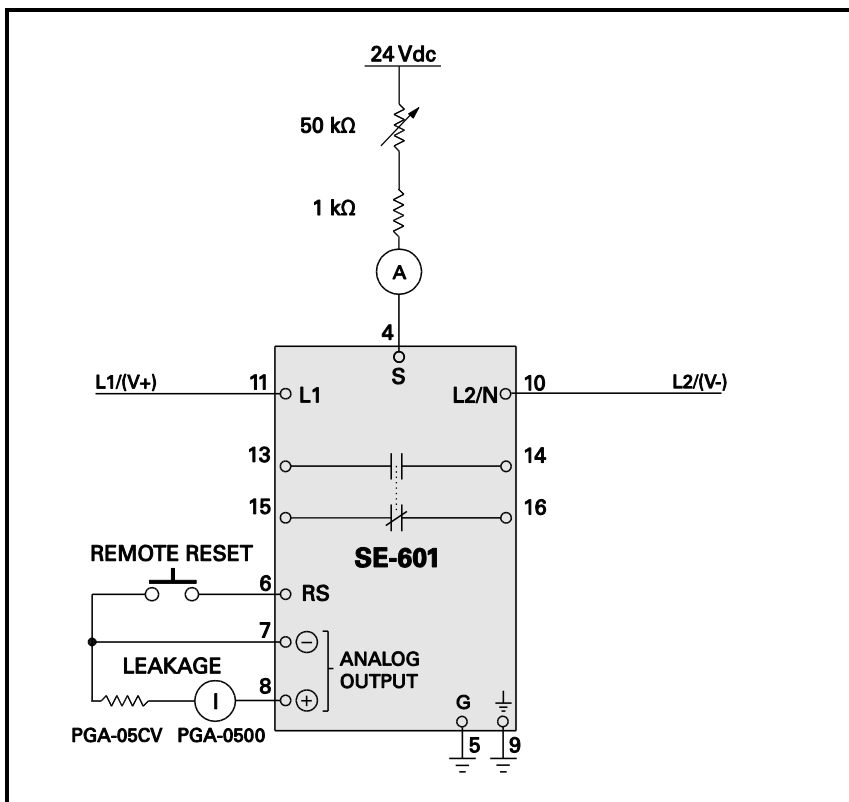

FIGURE 9. Ground-Fault Test Circuit.
- c) To simulate a ground fault, power down the entire system and remove the connection to terminal 4 (S). Ensure that terminal 5 is connected to ground. Using a 24 Vdc source, 50 k Ω variable resistor, fixed 1 k Ω resistor, and an ammeter, connect the circuit as shown in Fig. 9. Select a trip current on the SE-601, and slowly vary the resistance until the monitor trips. Never exceed 30 mA through the monitor.